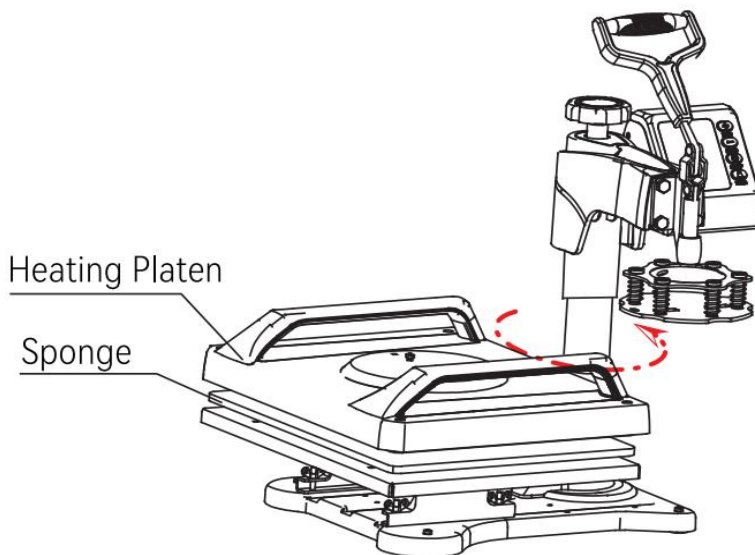

Fig 5
5. Swing the head away and put the sponge and the heating platen on the top of the table platen in order.(as shown in figure5)